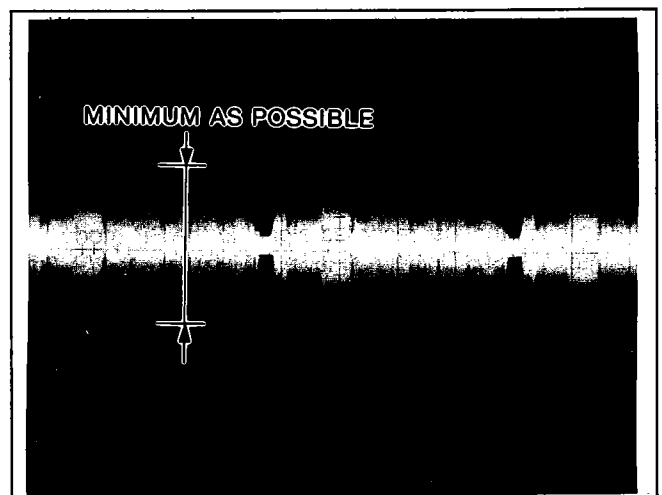

Figure E20 After ADJ.
4. Adjust both VR3801 and VR3802 until the chrominance amplitude is as small as possible. See Figure E20